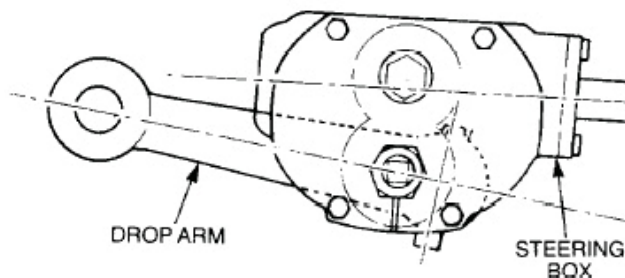

Figure 141 Drop Arm Alignment
- i. With the sector shaft in the straight ahead position, check that the alignment of the drop arm is correct (Figure 141) and that the lower seal is serviceable.